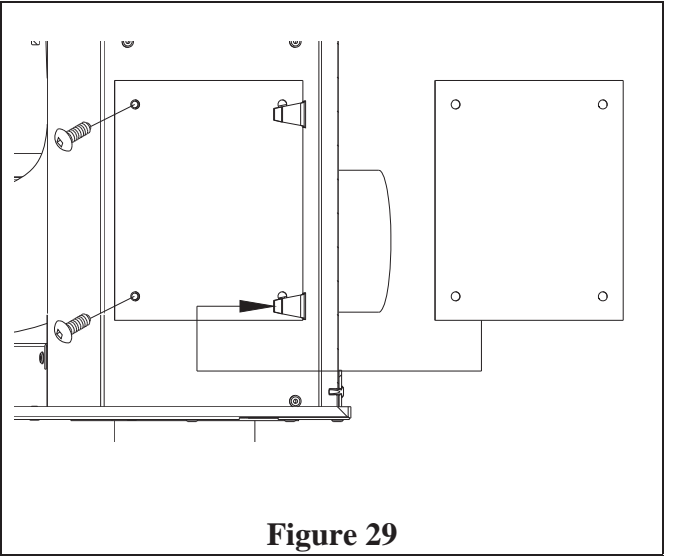

Figure 29
- 2) Seal the room air intake located on the right side by installing the plate over the opening. Use the two clips on the right side and two screws on the left side as in figure 29 to secure the plate.